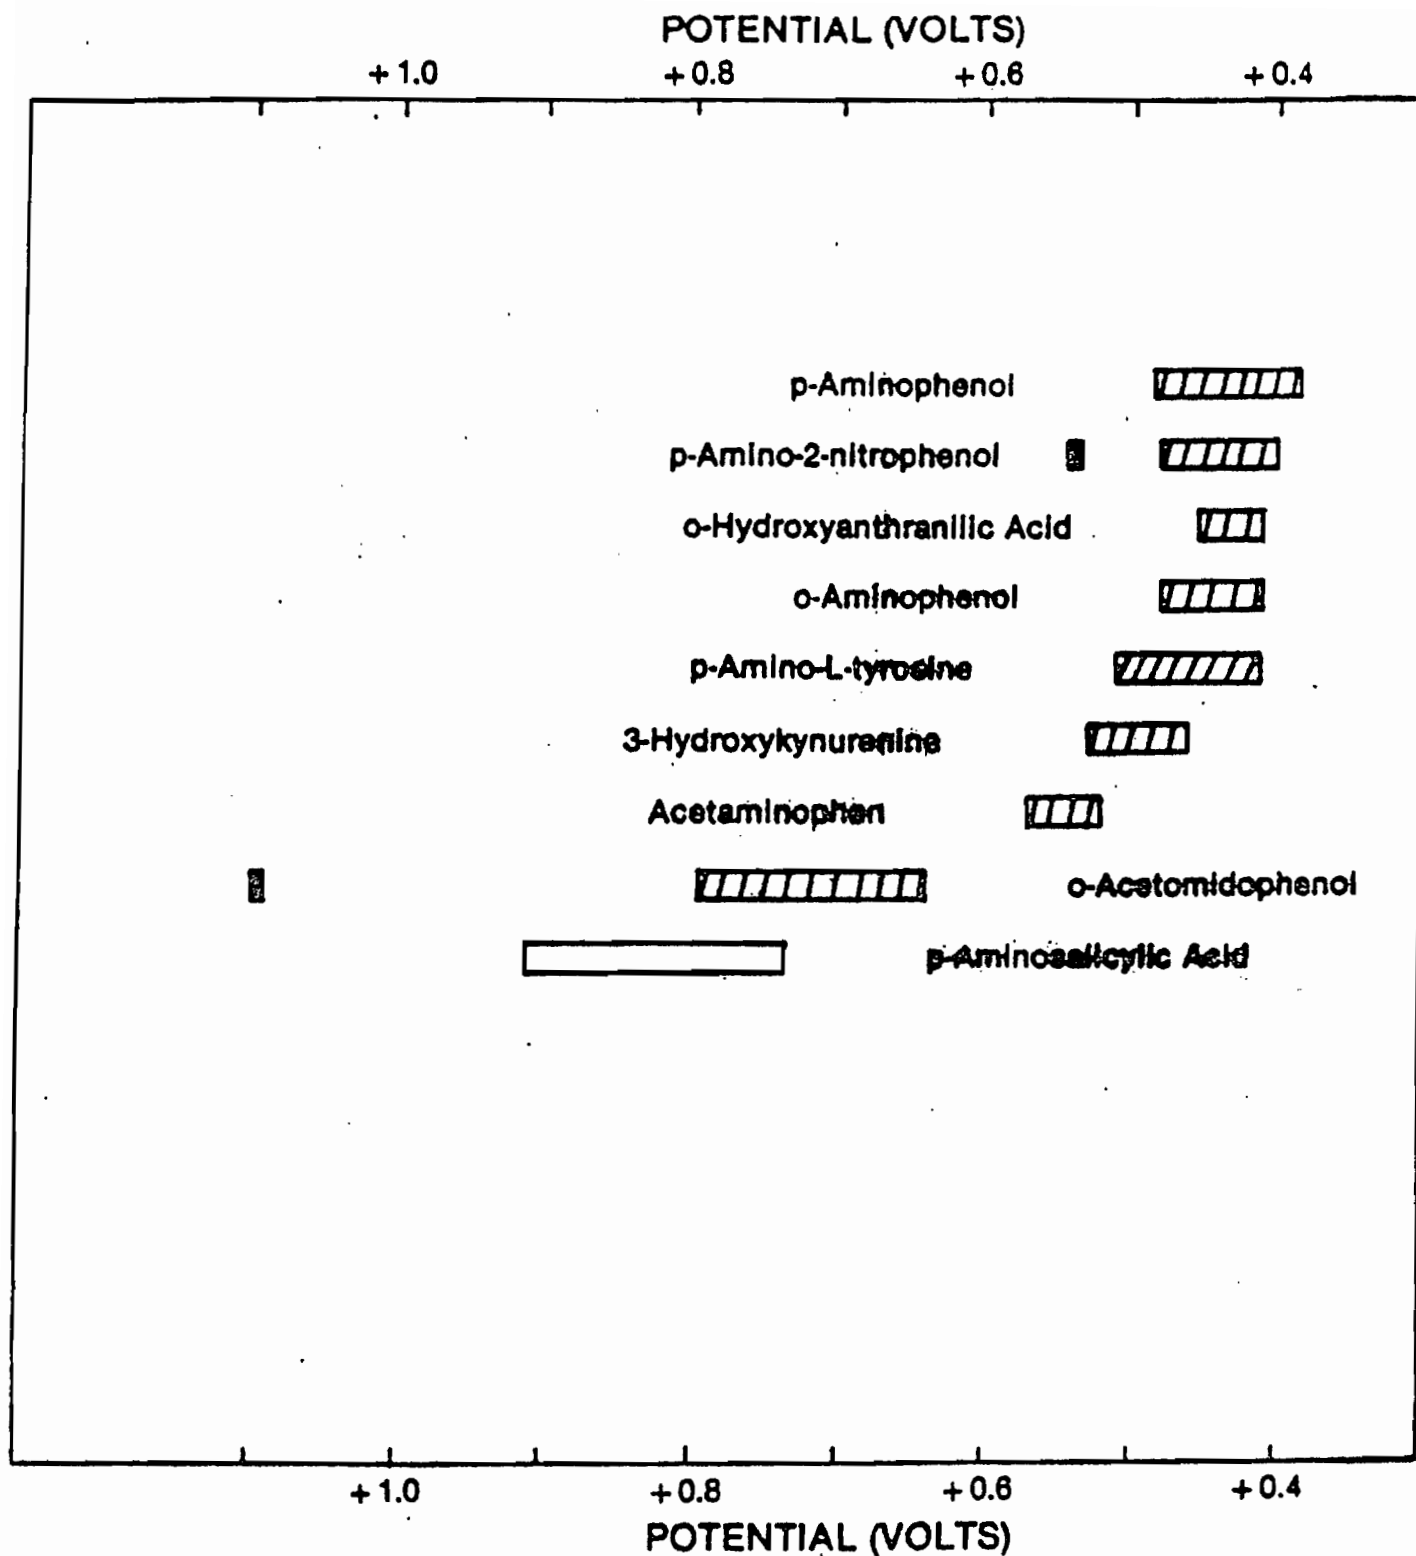

Figure 1 Oxidative Cyclic Voltammetric Data for Selected Aminophenols.
- Figure 1 Oxidative Cyclic Voltammetric Data for Selected Aminophenols.